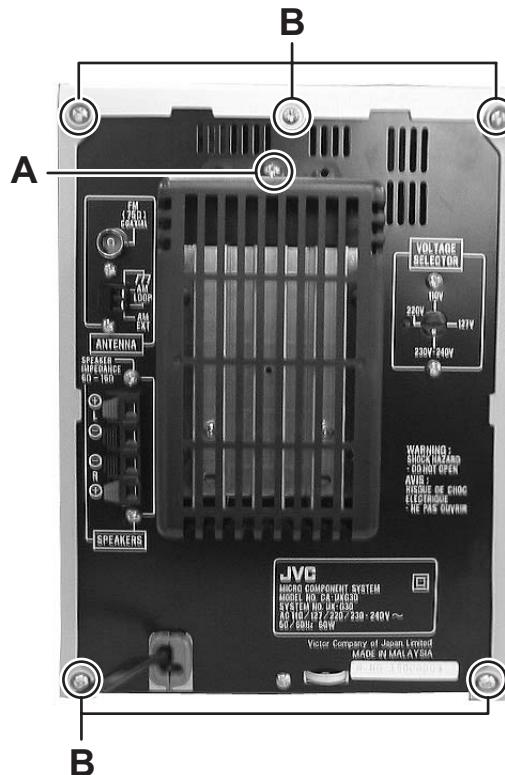

Fig.1
3.1.1 Removing the side panel (See Fig.1 to 3)
- (1) Remove the one screw **A** attaching the rear cover. (See Fig.1)
- (2) Remove the five screws **B** attaching the side panel and top cover. (See Fig.1)